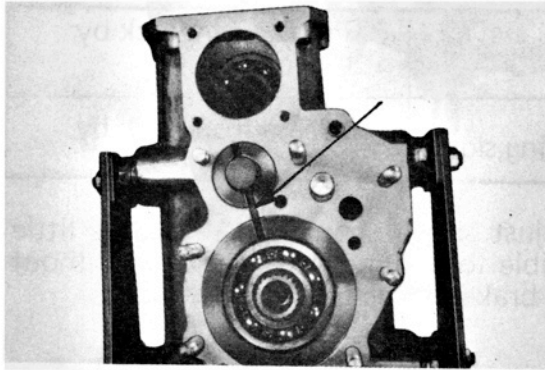

Fig. 3-22.
6) Make sure to have the output rear bearing bush stopper groove correctly aligned with the groove in the transfer case when installing the transfer output rear shaft as shown in the Fig. 3-22.